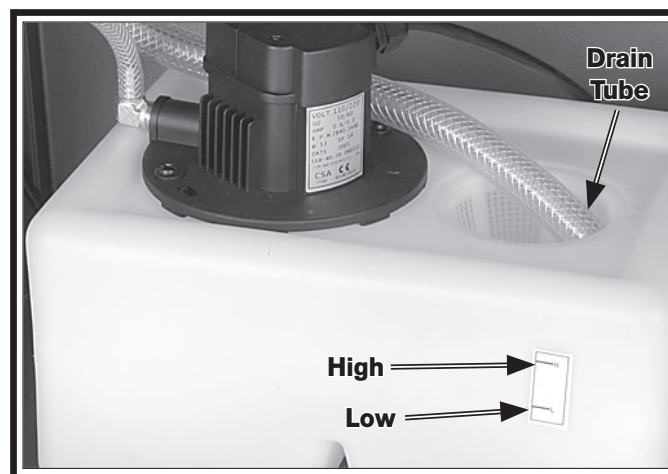

Figure 34. Filter screen and hose.
2. Place the filter screen and drain tube in the reservoir as shown in **Figure 34**.